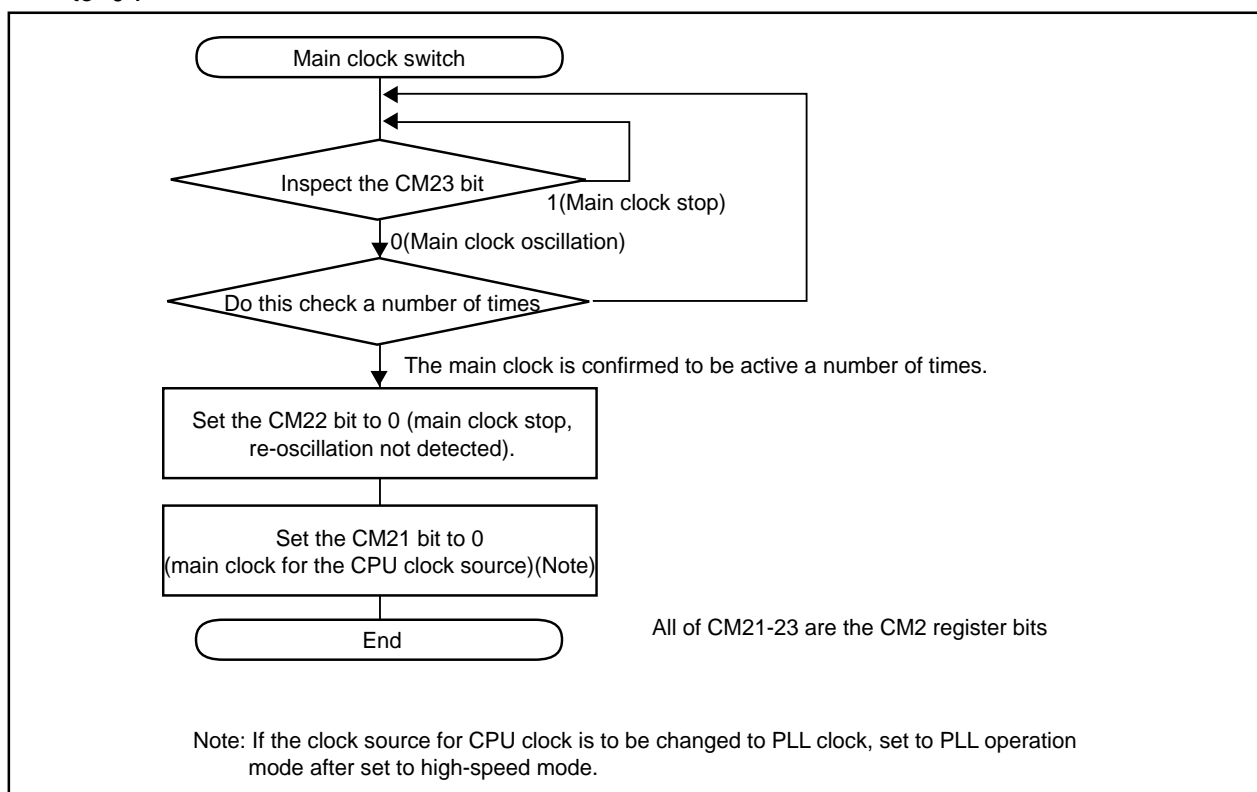

Figure 1.9.12. Procedure to Switch Clock Source From Ring Oscillator to Main Clock
- When the main clock re-oscillated after oscillation stop, return the main clock to the CPU clock and peripheral function clock source in the program. Figure 1.9.12 shows the procedure for switching the clock source from the ring oscillator to the main clock.